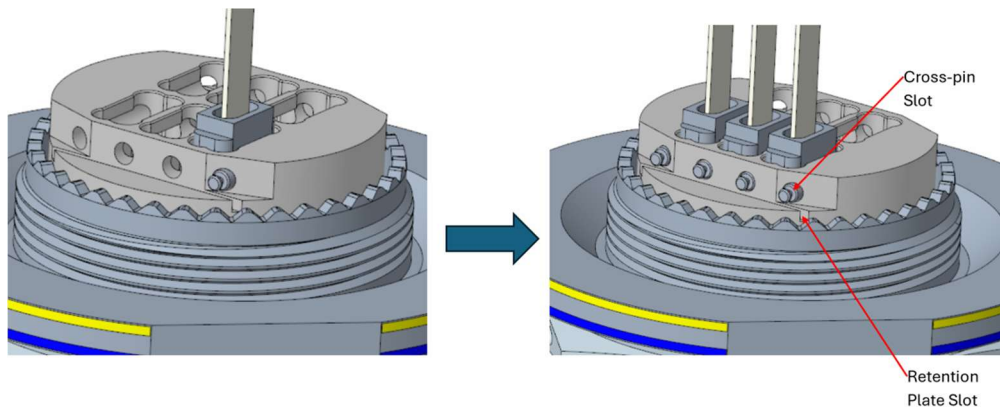

Figure 11
- Repeat until all cavities on one side of the insert are populated and all cross-pins on that side are installed – see *Figure 11*.